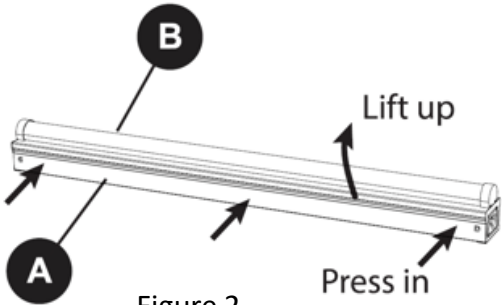

Figure 2
2. When the tabs are free on one side, rotate the fixture Lens Unit (B) up, away from the fixture base to separate the lens unit from the base (fig. 2). Note that the lens unit is tethered to the base with a cable at each end of the unit. If desired, during installation and wiring the lens/LED tray can be removed from the base by unplugging the quick-connect on the wires leading to the lens unit and unhooking the two cables tethering the lens unit to the base. If the lens unit is removed, place it in a safe place until the mounting and wiring is completed.